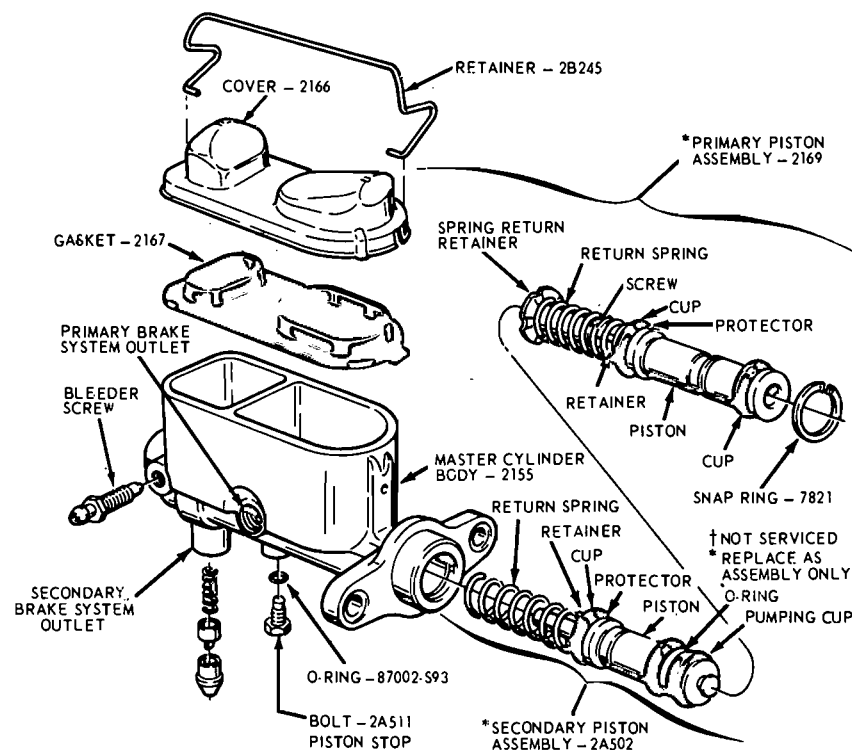

FIG. 17—Dual Master Cylinder Disassembled
2. Remove the secondary piston stop bolt from the bottom of the cylinder (Fig. 17).
8. Install the bleed screw (if so equipped). Install the gasket (diaphragm) in the master cylinder filler cover. Position the gasket as shown in Fig. 17. Make sure the gasket is securely seated.